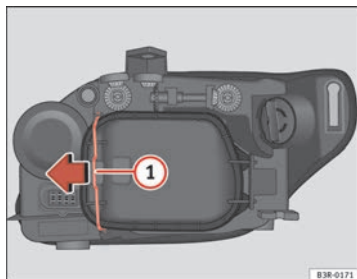

Fig. 200 Side light bulb (outside of vehicle)
- Move the brace $\Rightarrow$ fig. 200 ① in the direction of the arrow and remove the rigid cover, separating the brace side and then removing the two tabs from the other end of the cover.